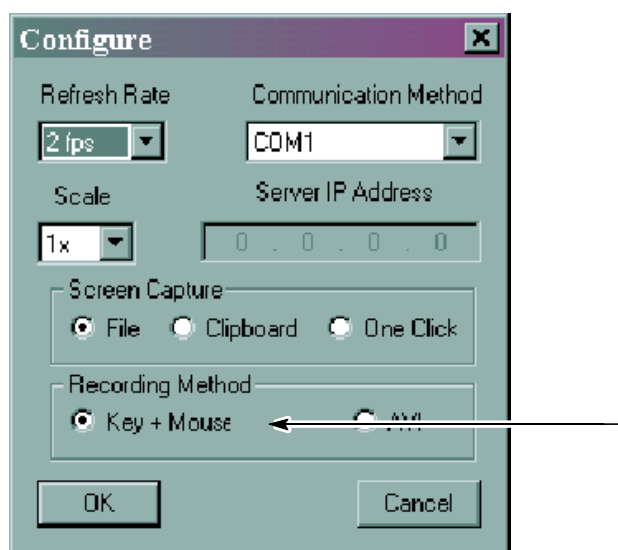

Figure 3-9: Setting the record method to key + mouse
1. To specify the recording method, click the wrench icon (). This displays the Configure window shown in Figure 3-9.